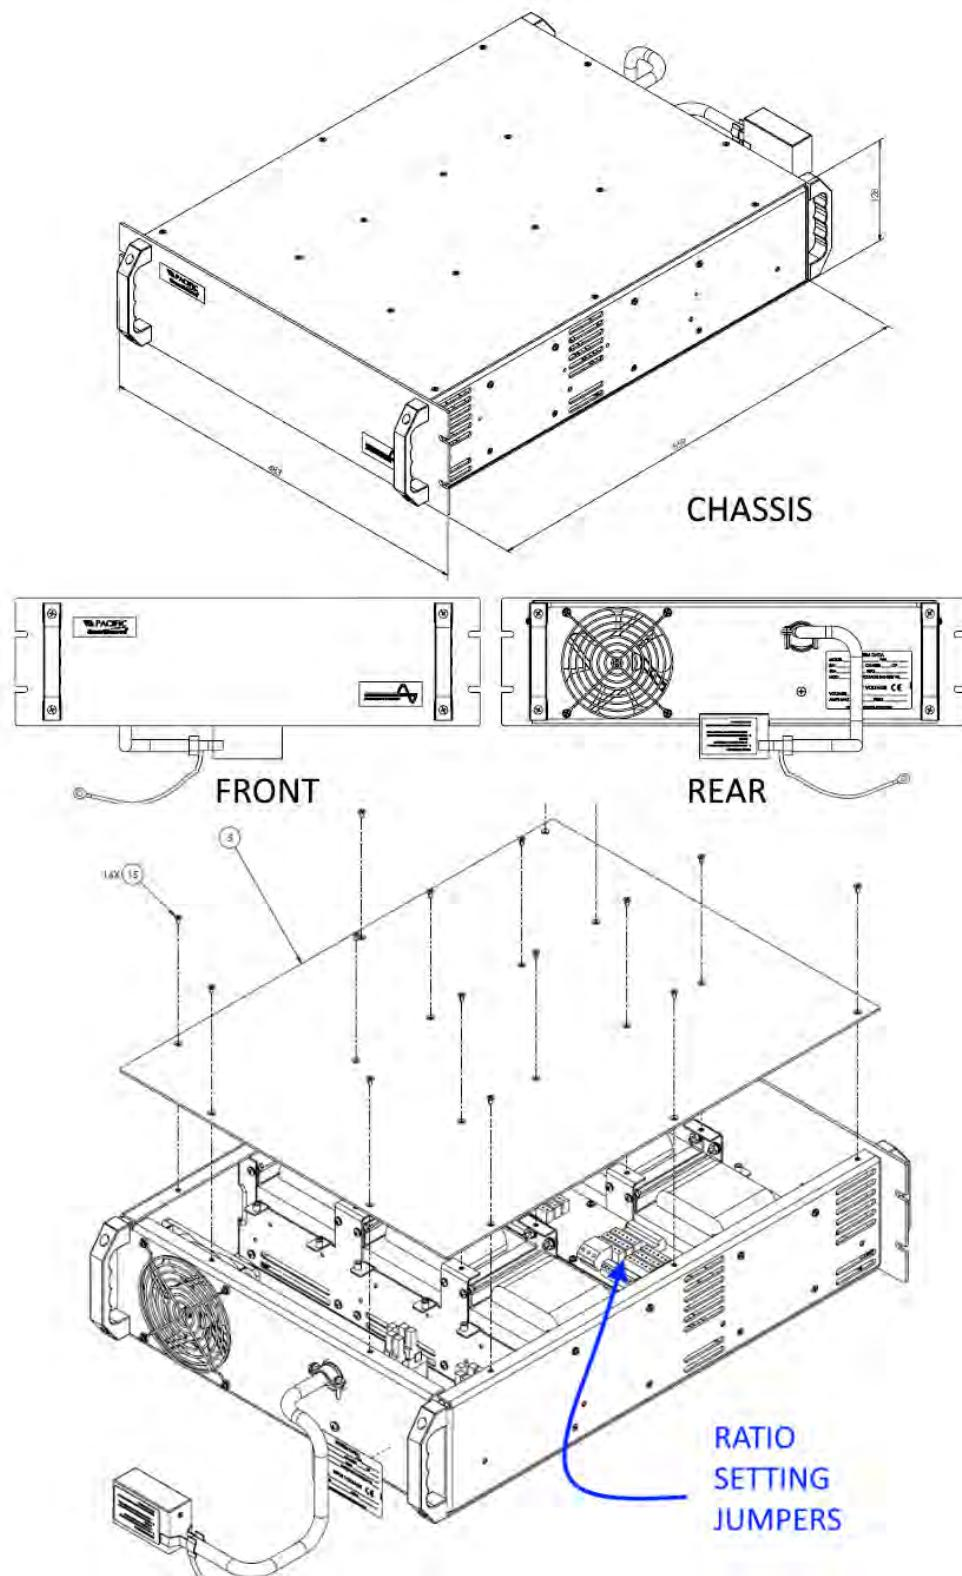
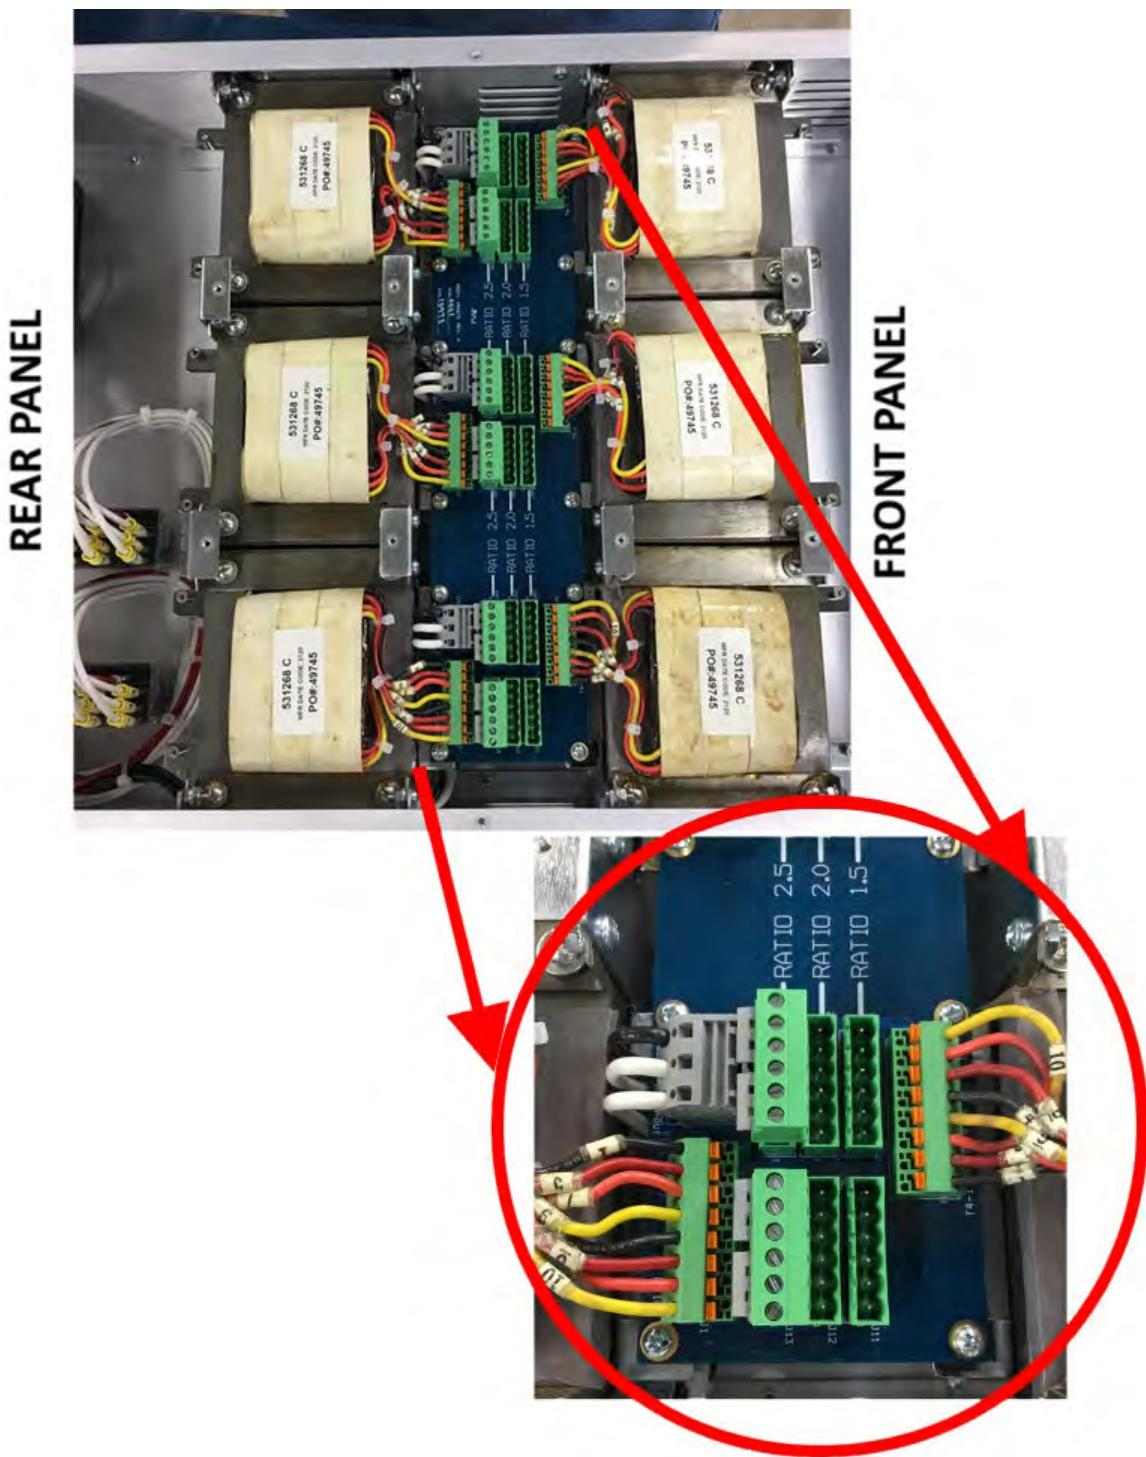

Figure 5-10: External Output Transformer Module Chassis Drawing
Figure 5-11: External Output Transformer Module Configuration Jumpers
For all 5U and 8U rack height LMX models, the magnetics module consists of a separate 3U rack mount chassis that contains the transformers and connects to the power source. The Magnetics Module (Assembly No. 134780) is required for the VR1.5, VR2.0, and VR2.5 output forms. Refer to Figure 5-10 on page 84.
3. Move all jumpers to the desired transformer ratio position. All jumpers must be in the same row. The ratio is shown on the circuit board. Refer to Figure 5-11 on page 85.
The wiring requirements for high range (0-270, 0-300Vac) 220 Vac, one-phase, or split phase direct-coupled loads are shown in Figure 5-10 and Figure 5-11. Split Phase or two-phase operation is defined to be two voltage vectors (V_a and V_b) which are equal in magnitude and separated by 180°.
Some loads require three connections (V_a -N- V_b or L1-N-L2). This type of load is commonly referred to as "Split Phase". In this case, the "N" terminal of the output terminal block is used in addition to the wiring described above. Refer to Figure 5-10 and Figure 5-11 for connection details.